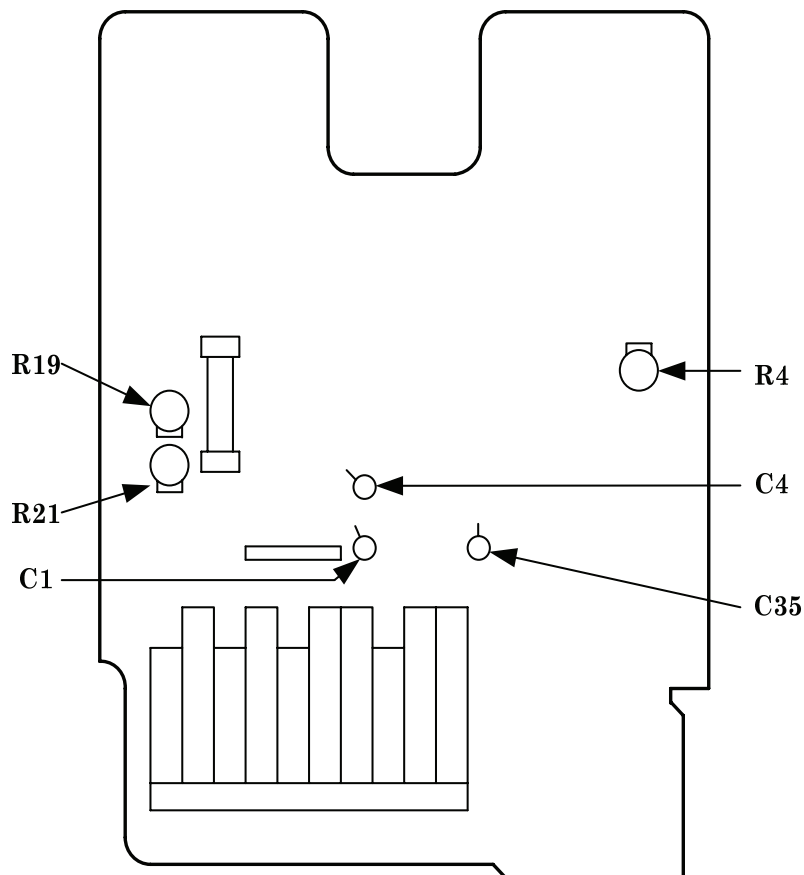

Figure 1. Adjustment locations.
- (1) Set calibrator output to 1.9 V dc. Adjust R4 (fig. 1) for a TI indication between 1.899 and 1.901 (R).
- (2) Set calibrator output to -1.9 V dc. If TI does not indicate between -1.899 and -1.901, adjust R4 (fig. 1) (R).
- (3) Repeat (1) and (2) above until both indications are within limits specified.
- (1) Set calibrator output to standby and press TI **2** range pushbutton.
- (2) Adjust R21 (fig. 1) to center of range.
- (3) Set calibrator output to 1.9 V at 100Hz. Adjust R19 (fig. 1) for a TI indication between 1.899 and 1.901 (R).
- (4) Set calibrator output to 190 mV at 100 Hz. Adjust R21 (fig. 1) for a TI indication between .189 and .191 (R).
- (5) Set calibrator output to 1.9 V at 100 Hz. If TI does not indicate between 1.899 and 1.901, repeat (2) through (4) above.
- (6) Press TI **20** pushbutton and set calibrator output to 19 V at 10 kHz. Adjust C1 (fig. 1) for a TI indication of exactly 19.00 (R).
- (7) Press TI **200** pushbutton and set calibrator output to 110 V at 10 kHz. Adjust C4 (fig. 1) for a TI indication of exactly 110.0 (R).
- (8) Repeat (1) and (3) through (7) above until no further adjustments are required.
- (9) Press TI **1200V AC** pushbutton and set calibrator output to 1000 V at 10 kHz. Adjust C35 (fig. 1) for a TI indication of exactly 1000 (R).
(10) Repeat (1) and (3) through (9) above until no further adjustments are required.